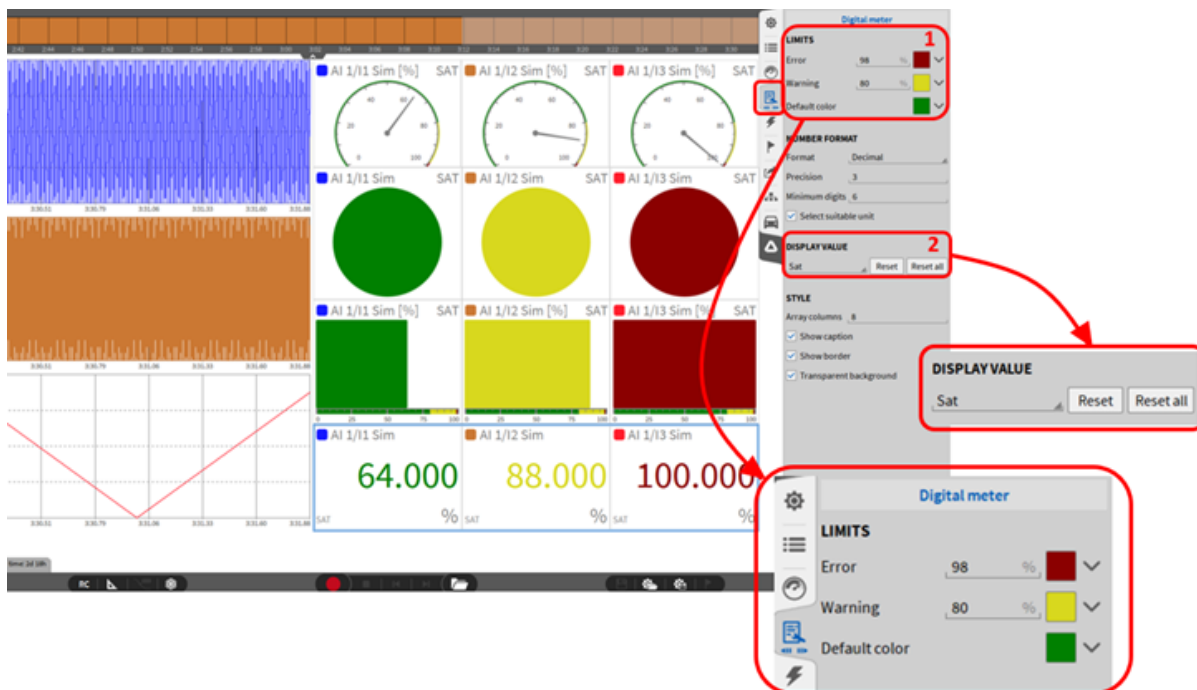

Fig. 8.113: Saturation visualization of channels
After adding one of the previously listed instruments to the measurement screen, the “Sat” (saturation) mode must be selected as the display value in the settings of the respective instrument. (see ② in Fig. 8.113 ). By pressing the “Reset” button, the selected instrument will be reset, by pressing “Reset all”, all saturation displays will be automatically reset (instruments other than the selected instrument too). After selecting the display value “Sat”, the colors as well as the limit values for the display can be changed if required (see ① in Fig. 8.113).